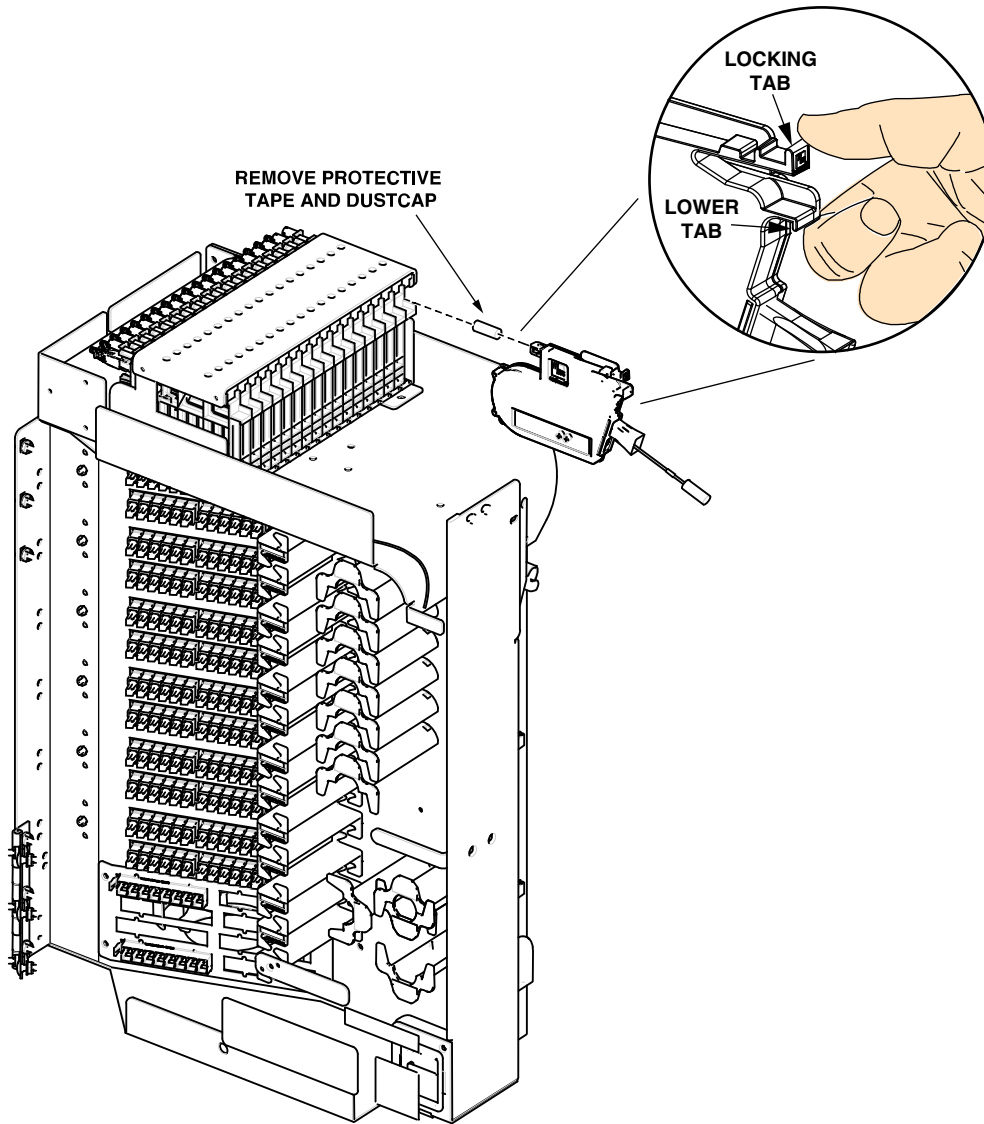

Figure 21. Splitter Installation
13.7 Remove the protective tape and dust cap from the splitter connector as shown in Figure 21.
13.9 Grasp the splitter using thumb and forefinger (see Figure 21) and gently squeeze the locking tab against the lower tab.